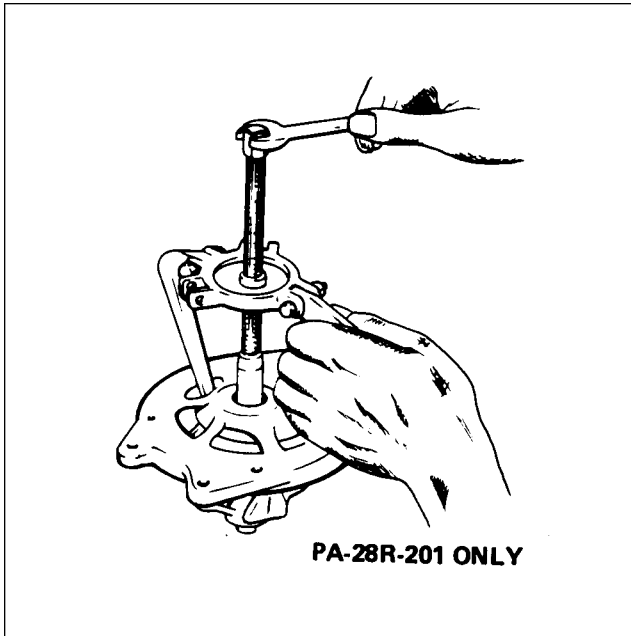
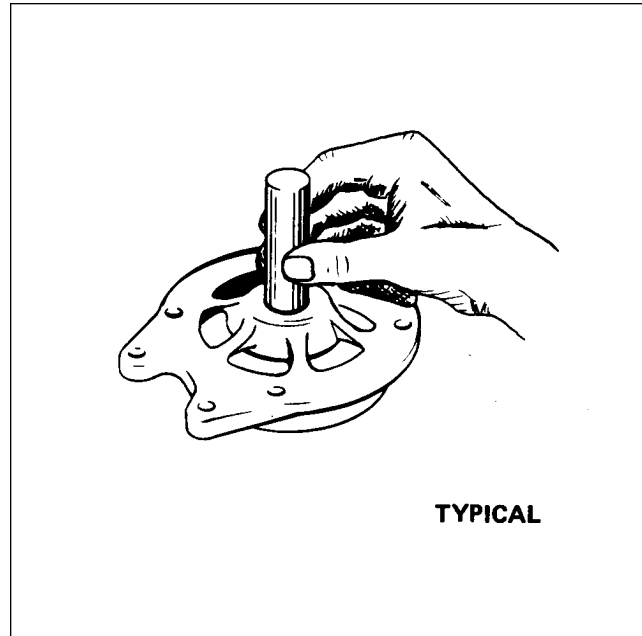

Figure 11-26. Removal of Drive End Head
Figure 11-27. Removal of End Head Bearing
- g. On PA-28R-201 models, to remove the drive end head from the rotor shaft, use a puller that grips on the bearing retainer plate as shown in Figure 11-26. Do not attempt to remove by supporting the end head and pressing on the shaft as this may result in distortion of the end head or stripping of the retainer plate screws. Remove the three retainer plate screws and press the bearing out of the end head. (Refer to Figure 11-27.) On PA-28R-201T models, support the drive end head and carefully press out the rotor assembly. Remove the three retainer plate screws and press the bearing from the end head. (Refer to Figure 11-27.)